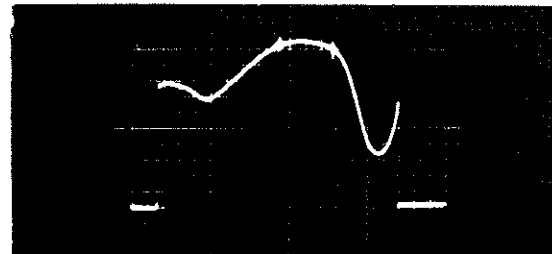
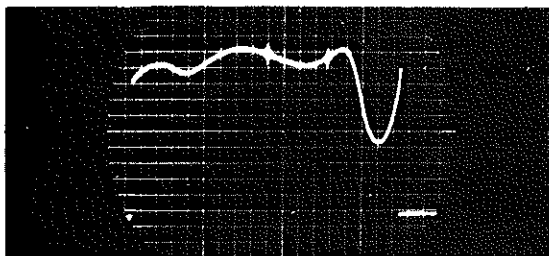

Fig. 35 Aural Amplifier: Correct Bandpass but Too Little Coupling
Fig. 36 Aural Amplifier: Correct Bandpass but Too Much Coupling
d. Adjust the LOAD switch 7S31 to obtain a response similar to that shown in Fig. 35, 36, or 37. The correct bandpass is shown in Fig. 37. If the bandpass is too narrow, as shown in Fig. 35, or too wide, as shown in Fig. 36, the coupling must be adjusted. To do this, remove the shield covers on the output circuit on each side of the coupling loop. Then, using the box-end ratchet wrench supplied with this equipment, loosen the 1/4-20 hexhead bolts connecting the coupling loop to the output circuit. If the bandpass was found to be too narrow, the coupling loop should be pushed slightly into the cavity to increase the coupling. If the bandpass was found to be too wide, the coupling should be pulled back toward the output circuit to decrease the coupling. Tighten the hexhead 1/4-20 bolts securely and replace the shield covers before proceeding.